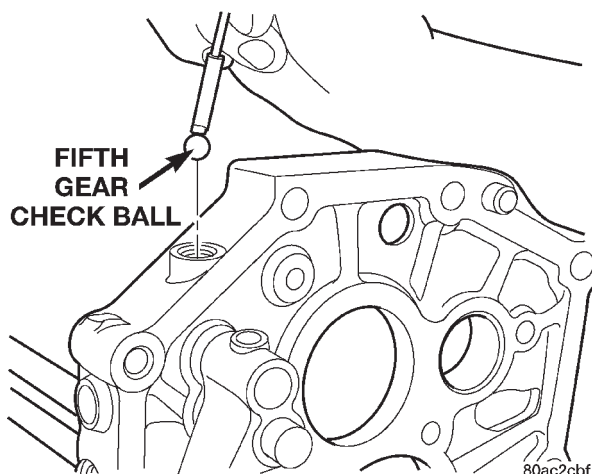

Fig. 83 Install Fifth Gear Check Ball
(11) Install reverse shift head and rail assembly into the intermediate plate.
(12) Install the fifth gear interlock ball and check ball (Fig. 83).